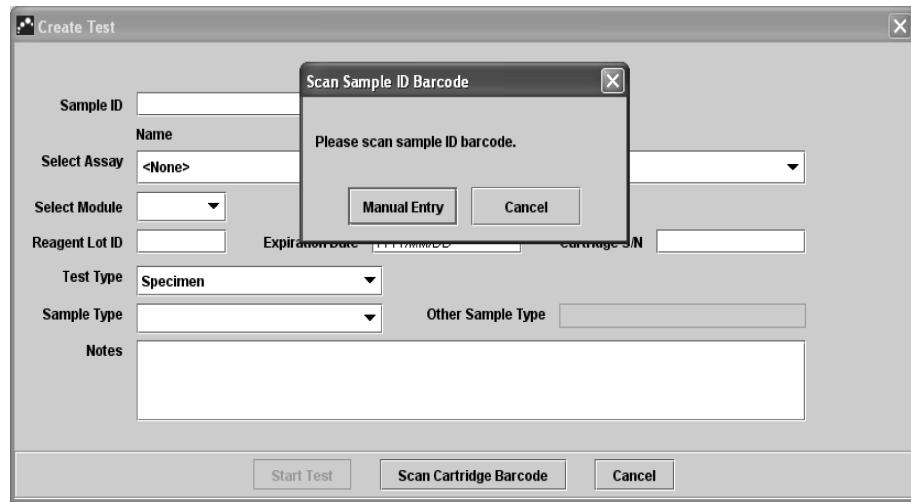

Figure 5-14. Create Test window and Scan Sample ID Barcode dialog box
1. In the GeneXpert Dx System window, click **Create Test** on the menu bar. The Scan Sample ID Barcode dialog box appears (Figure 5-14).